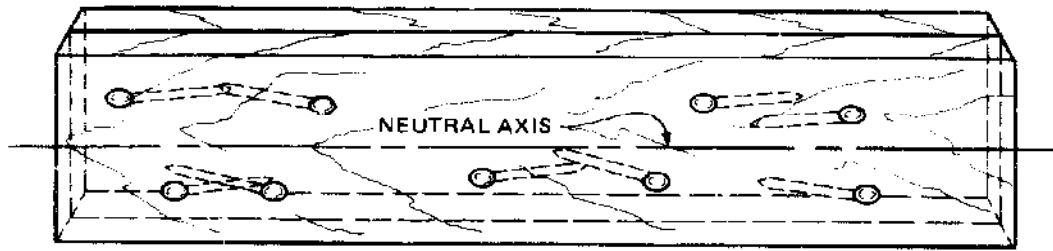

Fig. 11-33 Nailing two boards together.
1. Locate the nails or spikes so that they are staggered and at the top or bottom side of the beam. See figure 11-33.